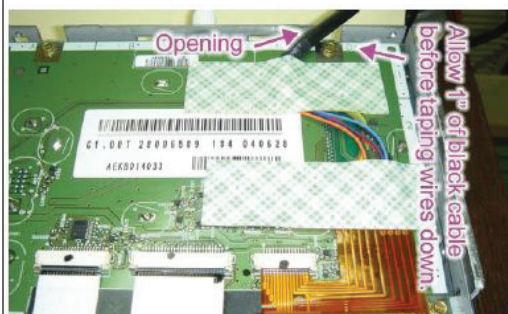

FIG 1
5. Apply ribbon to circuit board. Apply double stick tape on top of the colored wires towards back side of radio. Make sure the black insulated cable is about 1 inch inside of the back of radio and is seated in the opening by the hex screw FIG 1. Make sure that the ribbon contacts are straight in the connector after it is taped down FIG 2.